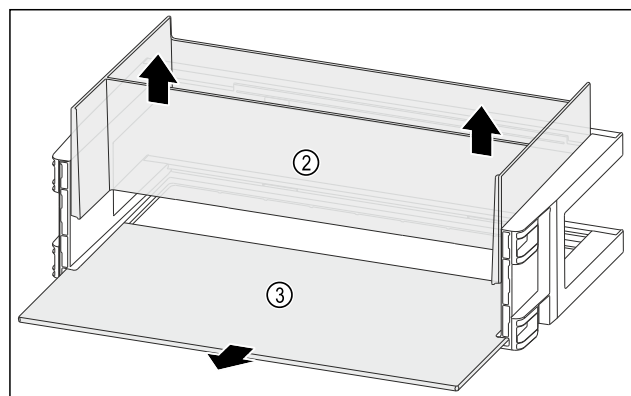

Fig. 94
- Remove the organiser Fig. 94 (2) upwards.
- Remove the shelf Fig. 94 (3).